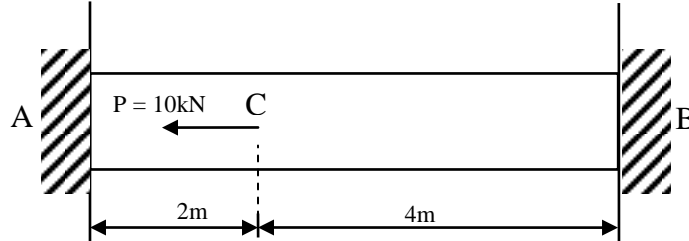

Figure 3.0
- (b) A fixed end bar ACB with cross sectional area A is subjected to an axial force P as shown in Figure 3.0. Assume $A=15\text{cm}^2$, $E =20 \times 10^6 \text{ N/cm}^2$. Determine the displacement at point C.